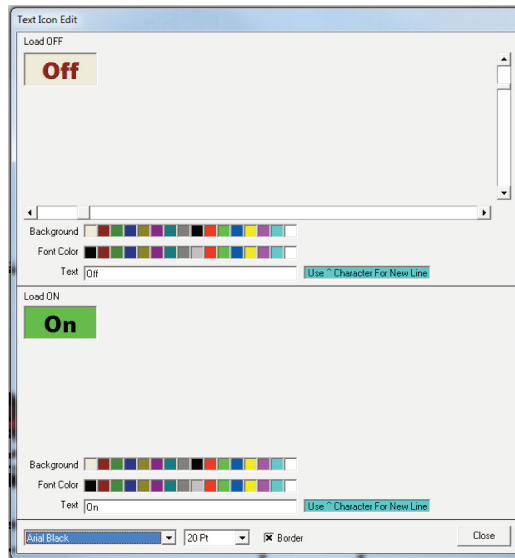

Figure 2.5 Text Icon Edit screen
12. If “Text Icon” is selected, you can use the default Off and On load Icons or create your own custom icon with text, font type, and size. You can also adjust the background and font color for each On and Off Icon separately as shown in figure 2.5